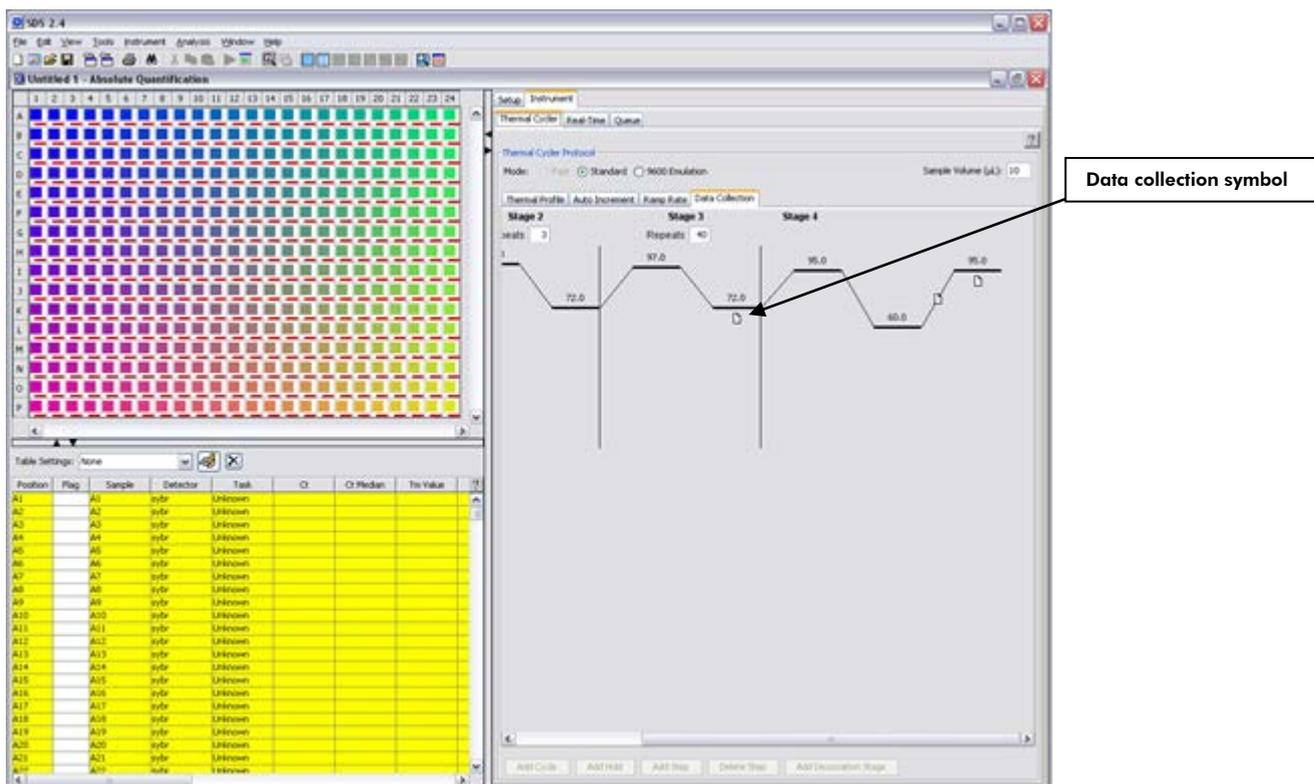

Figure 3. Plate setup — setting data collection.
- To set up the data collection conditions (see Figure 3), select the "Data Collection" tab, then left-click so that the "Data Collection"